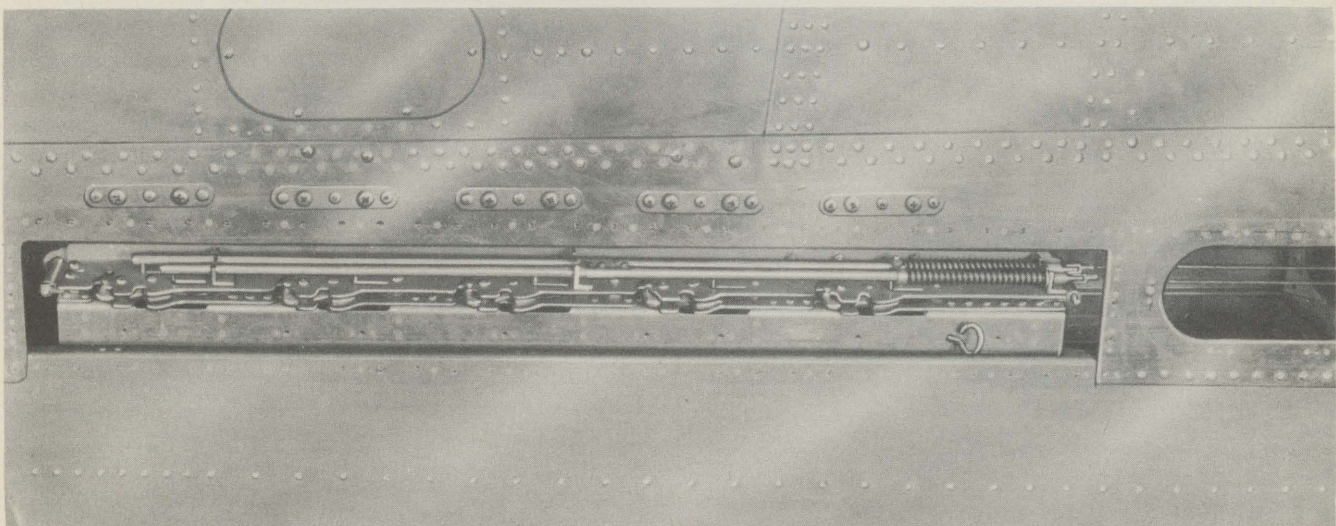

FIG. 13—BOMB RACK INSTALLED
3. BOMBING EQUIPMENT (See figure 13.)